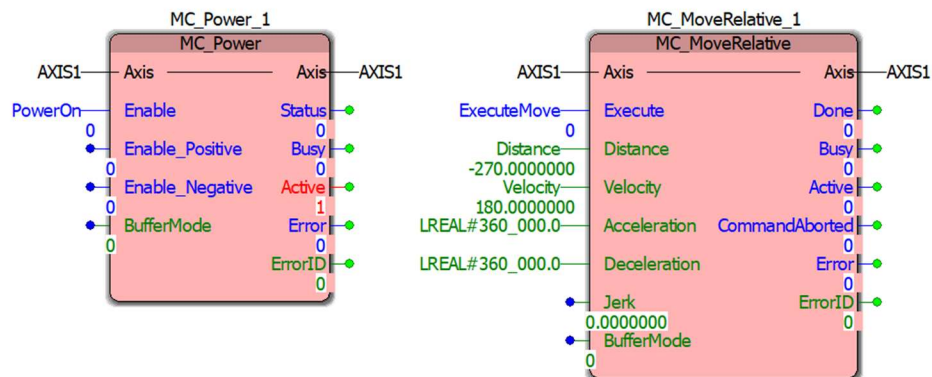

Figure 16: Step 1 in Debug Mode
- Enter Debug Mode clicking the Debug Toggle as shown in Figure 15 and it should look like Figure 16